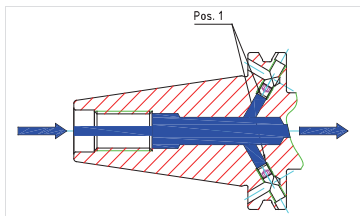

Fig. 16: Coolant Supply **Form AD/JD**
4. Screw the threaded pins with medium-strength thread locking compound (adhesive) into the cooled tool holder at "Pos. 1" (see Fig. 16: Coolant Supply **Form AD/JD**).